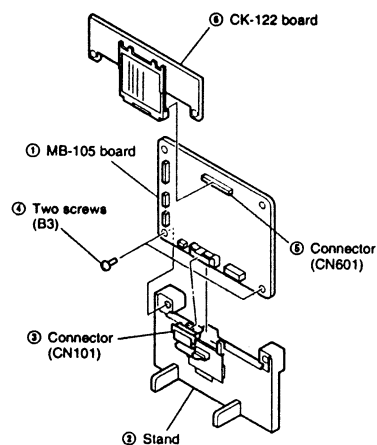

Fig. 2
- 3) Set the MB-105 board as shown in Fig. 2.